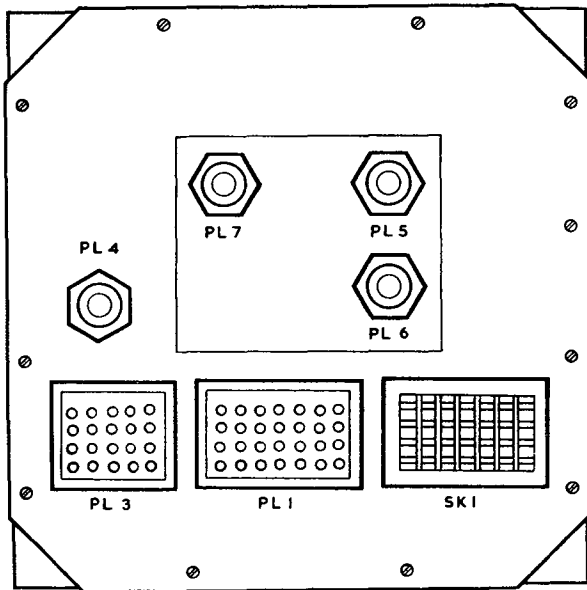

Fig. 4. Rear panel of control unit
13. On the rear panel of the unit (fig 4) are mounted plugs and sockets for interconnection with other units of the installation, the connections are made through the back-plate of the unit. (Chap. 3.)